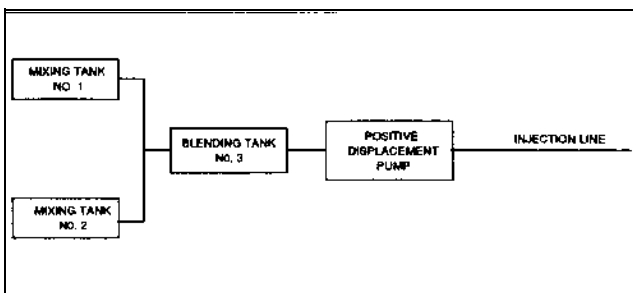

Figure 3-8. Two-tank gravity-feed system
(1) This system (Figure 3-8) normally permits only one predetermined gel time. Any attempt to change gel time requires that carefully weighed amounts of catalysts and accelerators are added to the proper tanks.
(2) The mixing tanks should be of identical size and volume, and the surface of the solutions should be at the same height in the respective tanks. Equal volumes of solutions are drawn from the two mixing tanks into the